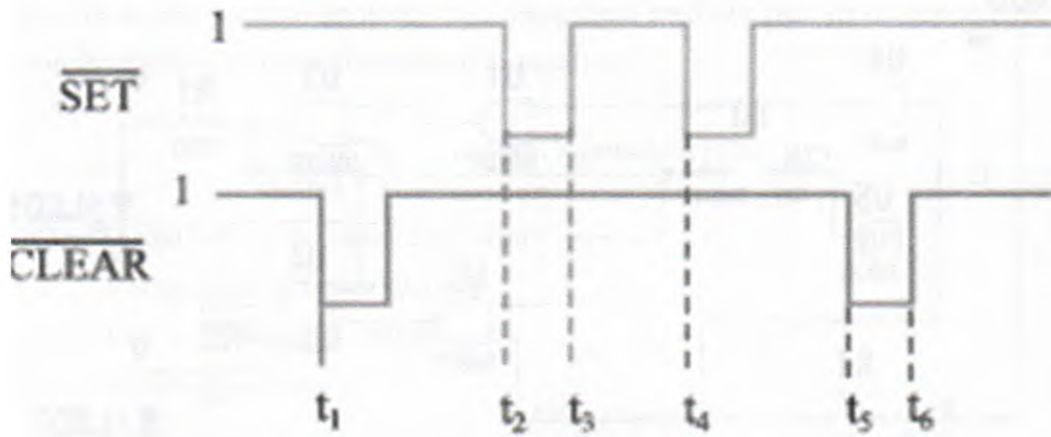

Figure 6.3: Flip Flop Waveform
1. The waveform in Figure 6.3 is applied to a typical NAND SR latch. Assuming the initial value of Q is 0. Sketch the output waveform.
2. The waveform in Fig 6.3 is also applied to a typical NOR SR latch. Assuming the initial value of Q is 0. Sketch the output waveform.